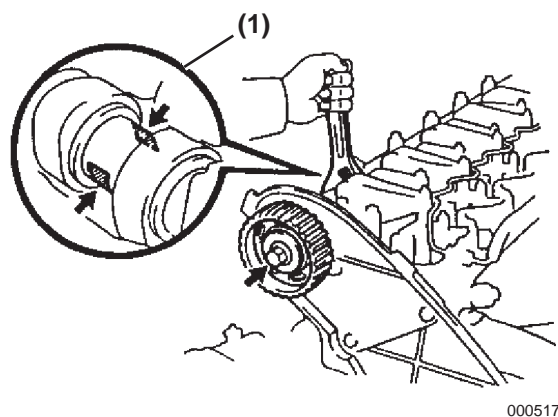

Figure 5-176
4. Hold the camshaft with a hex wrench on the flats (**Figure 5-176, (1)**) of the camshaft. Torque the pulley bolt to 1000 kgf-cm, 98.00 N·m (72.3 lb-ft) (**Figure 5-176**).